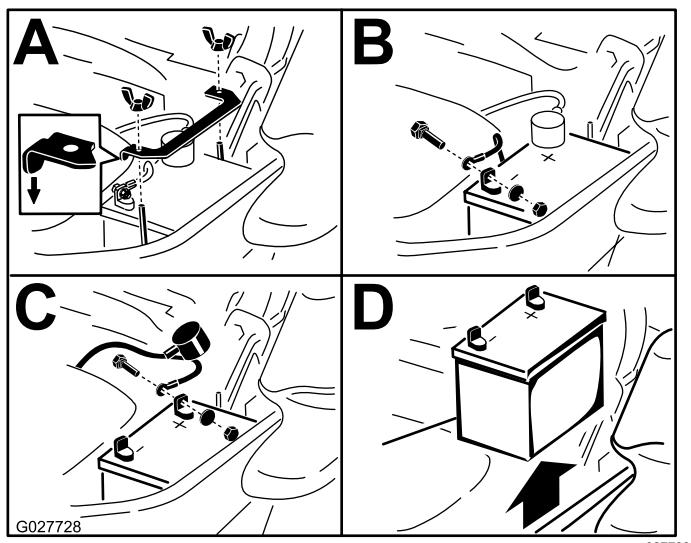

Figure 56
3. Remove the battery as shown in Figure 56.